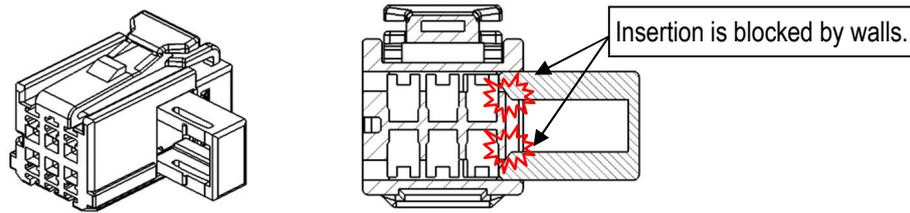

Fig35. Incorrect retainer installation
⑤ The retainer cannot be inserted, when it is inserted in incorrect orientation to the female housing, as shown in **Fig.35**.